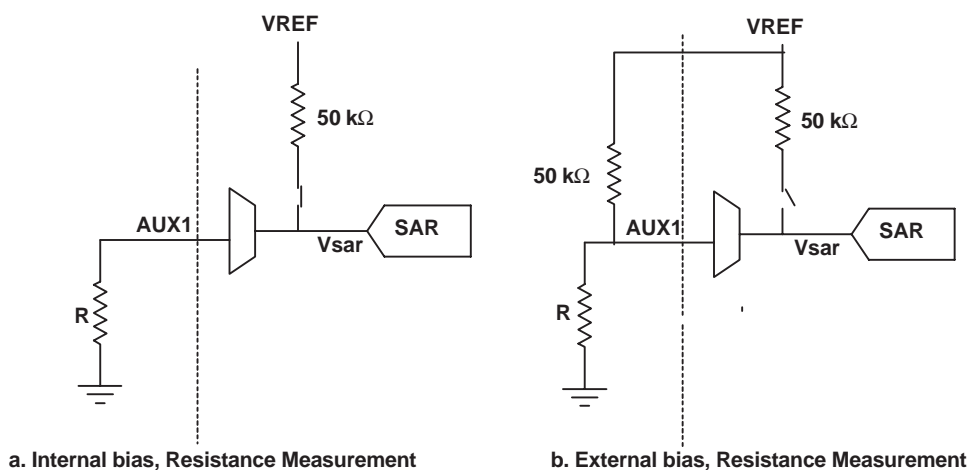

Figure 34. Connection Diagram for Resistance Measurement
The TSC2111 provides feature to measure resistance using auxiliary inputs. It has two modes of operation: (1) External bias resistance measurement (2) Internal bias resistance measurement. Internal bias resistance measurement mode does not need an external bias resistance of 50 kΩ, but provides less accuracy because of on chip resistance variation, which is typically ±20%. Figure 34 shows connection diagram for resistance measurement mode on AUX1.